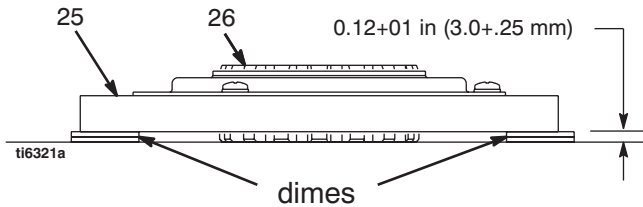

FIG. 8
2. FIG. 8. Lay two stacks of two dimes on smooth bench surface.
3. Lay armature (25) on two stacks of dimes.
4. Press center of hub (26) down to bench surface.